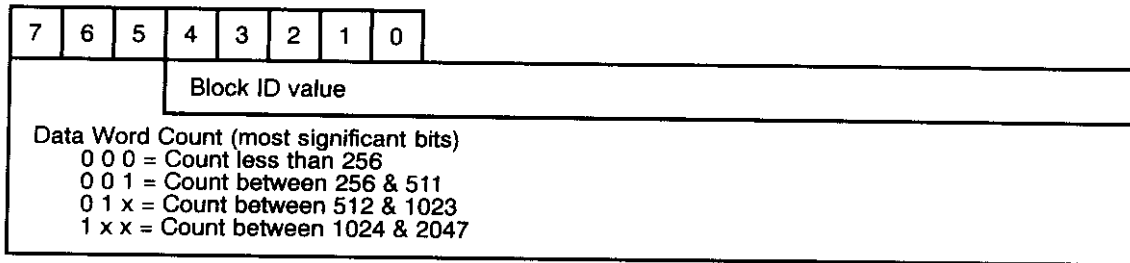

Figure 18. Operator Console to TAC Command (Word 2).
- Word 2: Block ID and the 3 most significant bits for the data word count (see Figure 18)
The data word count has a maximum value of 255 (0xFF). To obtain values greater than 255, the upper 3 bits of word 2 (see Figure 18) are used as an extension of this word.